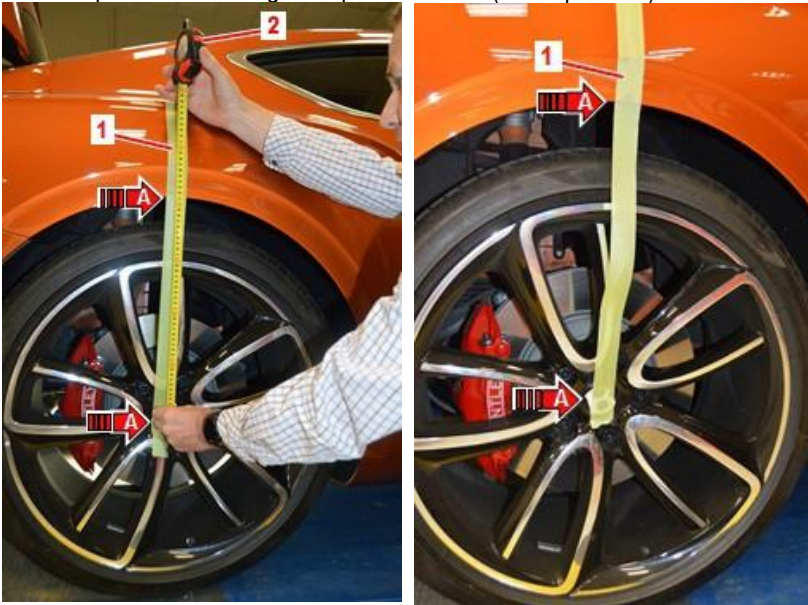

Figure 7
- Tape (1) applied before and after, showing the tape sagging. See Figure 7.
- All ride height measurements (A-A) before and after. See Figure 7.